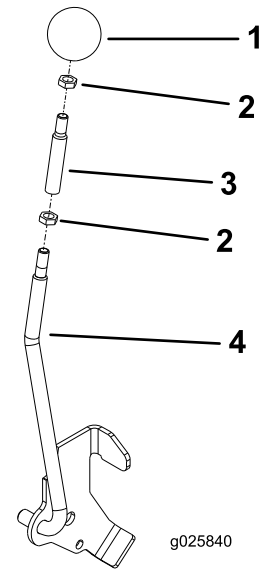

Figure 3
15. Install the speed-control extension and a jam nut (3/8 inch) onto the speed-control lever (Figure 3).
16. Install the speed-control knob and a jam nut (3/8 inch) as shown in Figure 3.